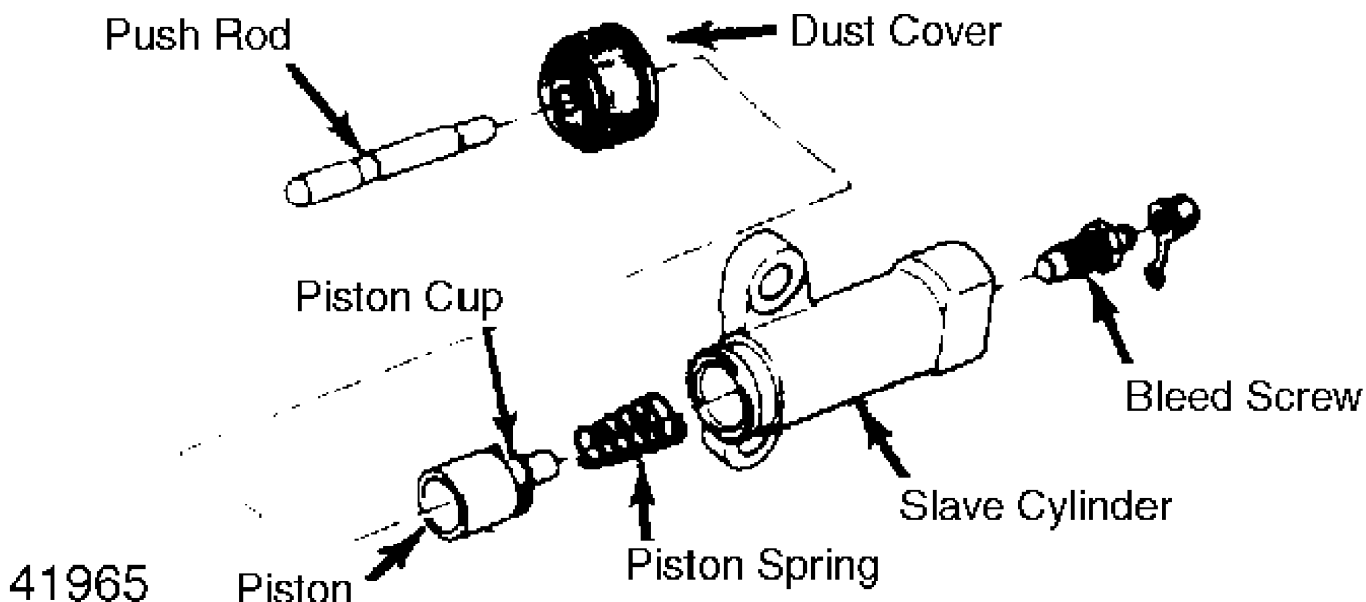

Fig. 3: Exploded View of Clutch Slave Cylinder Assembly
1) Remove cylinder. Remove push rod and dust cover. Remove piston, cup and spring as an assembly. Remove bleeder screw. See Fig. 3. Clean parts and inspect for wear or damage.